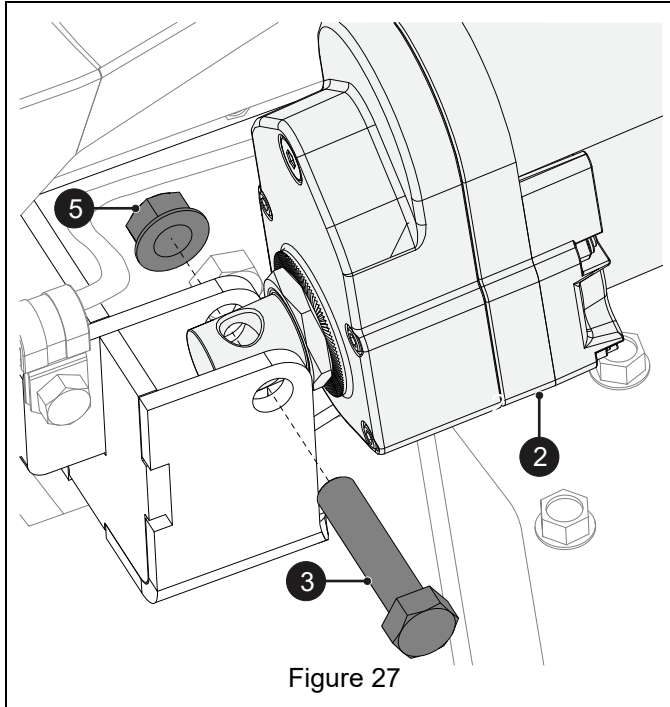

Figure 27
- Secure rear of actuator (item 2) to rear mount with one 1/2" x 2 1/4" hex bolt (item 3) and one 1/2" center lock flange nut (item 5). Torque to 20.3 N•m – 27.1 N•m (15 lb-ft – 20 lb-ft). See Figure 27.